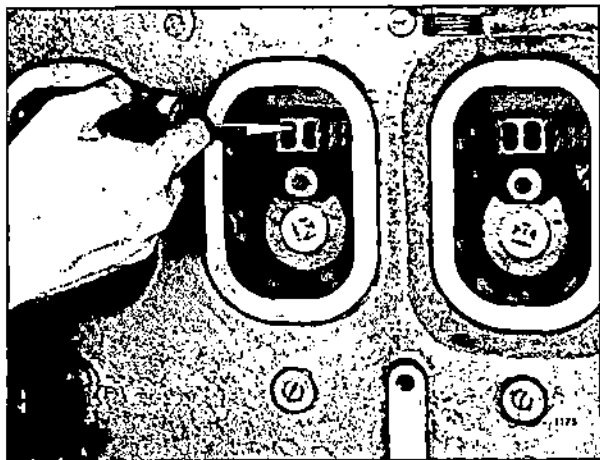

Fig. 3 - Inspecting for Broken Piston Rings Through Cylinder Liner Air Ports
- A. Piston rings may be stuck or broken. To determine the condition of the rings, remove air box cover and press on the compression rings, Fig. 3, with a blunt tool. A broken or stuck ring will not have a spring-like action.